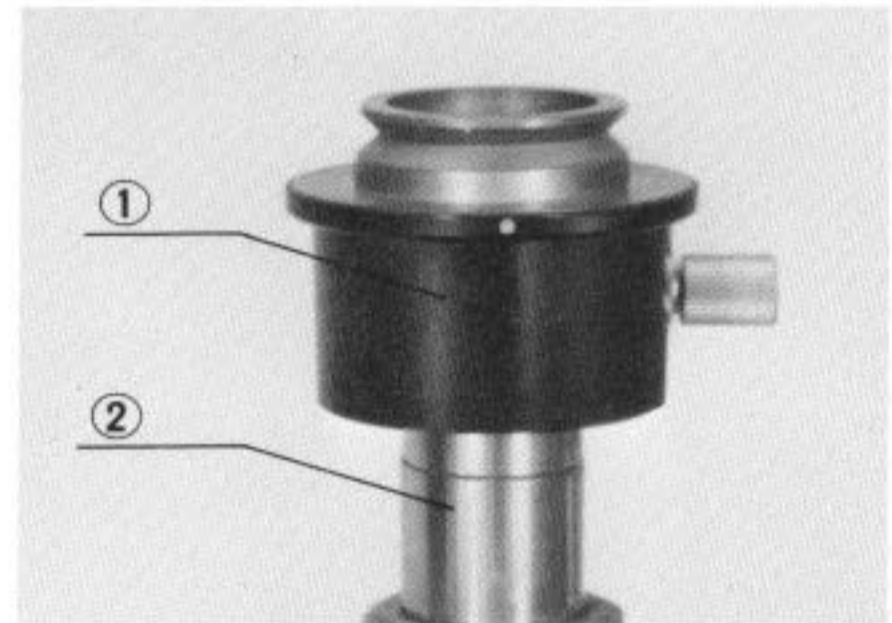

Fig. 9
- 1) Place the PM-ADF adapter ① over the straight photo tube ② of the microscope and clamp it with the red index dot facing towards you. (Fig. 9)